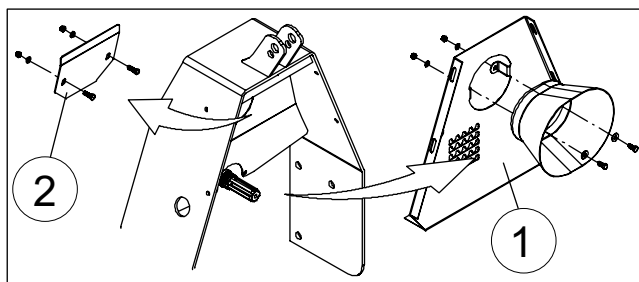

Fig. 10. Removing the covers
1. Remove the PTO guard and install to the cover plate (1). Remove the mounting bolts of the small cover plate and remove the cover plate (2) from the mounting frame. These components will not be needed later. See Figure 10.